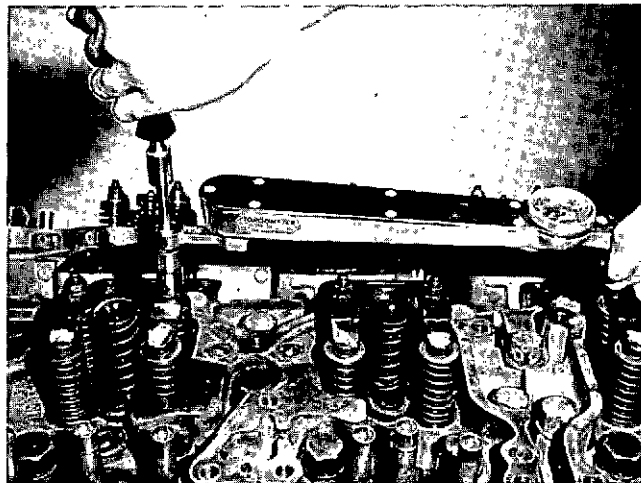

Fig. 14-1-109, V414197. Tightening crosshead locknut with ST-669 and torque wrench
4. Torque locknut to 25 to 30 ft-lb [3.4575 to 4.1490 kg m] with a torque wrench to lock adjusting screw in this position. If ST-669 Tool is used with torque wrench, tighten to 22 to 26 ft-lb [3.0426 to 3.5958 kg m]; this lower torque is necessary due to the longer torque arm formed by ST-669. Adjust both intake and exhaust valve crossheads, Fig. 14-1-109.